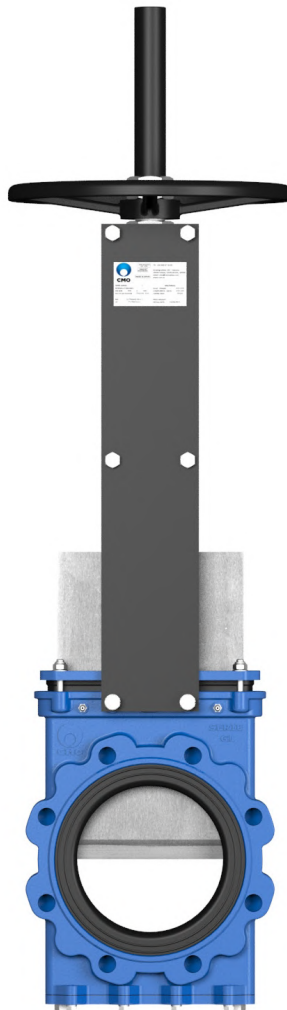

Fig.12
**EXTENDED SUPPORT PLATES (Fig 12)**